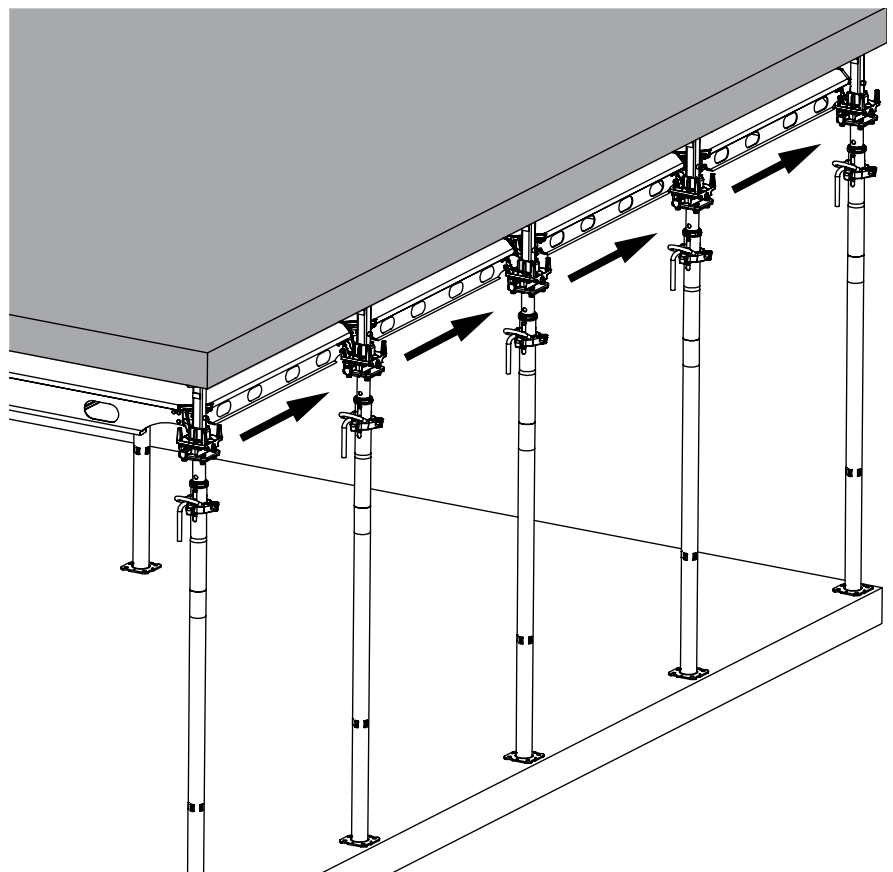

Fig. A11.02
2. Strike the next drophead wedge on one side row by row as shown by arrow mark. This causes the panels to drop by 12 cm. (Fig. A11.02)